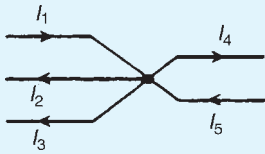

Figure 13.88
1. Which of the following statements is true: For the junction in the network shown in Fig. 13.88: